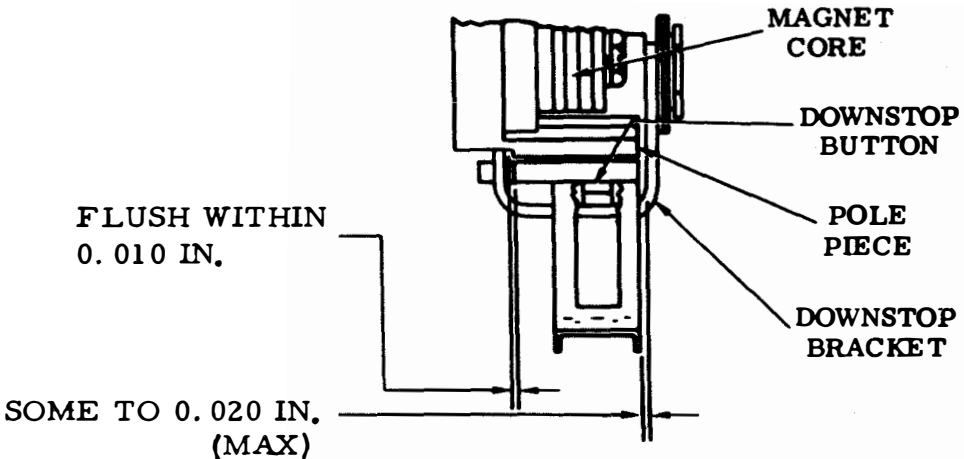
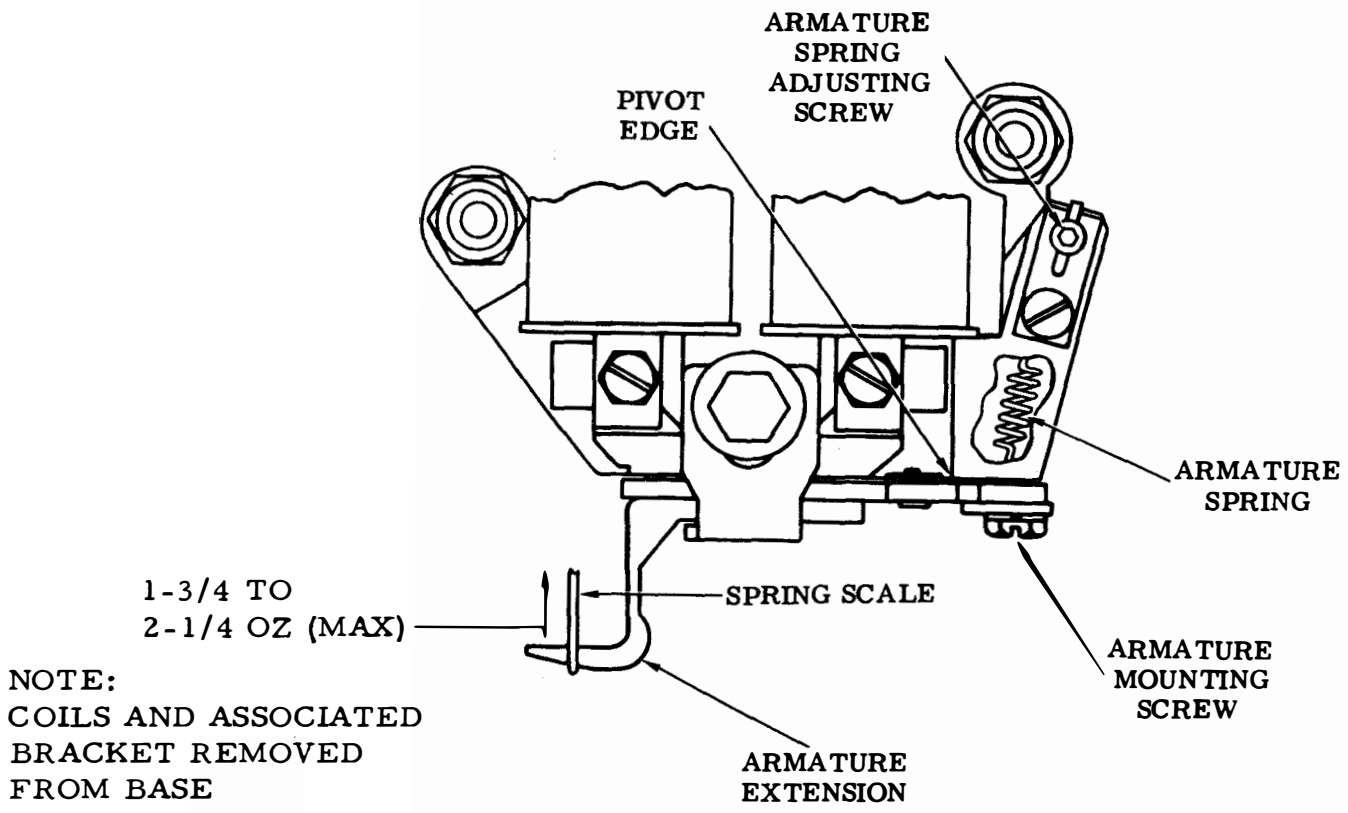

Figure 6-103. Selector Armature Alignment for Low-Level Sets - Left Side View
Figure 6-104. Selector Armature Spring for Low-Level Set
- (2) Selector Armature Alignment. Adjust as follows:
- (a) Refer to figure 6-103.
- (3) Selector Armature Spring. Adjust as follows:
- (a) Refer to figure 6-104.